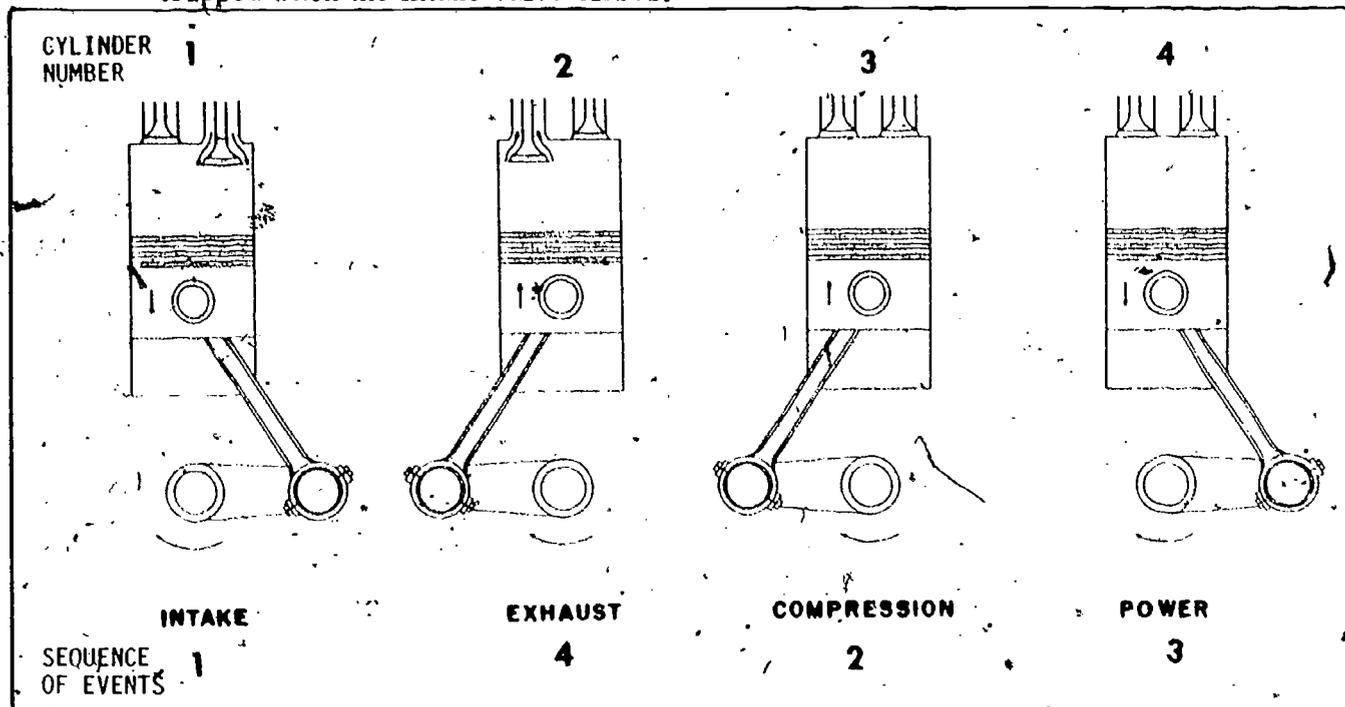

Fig 2-8. Four-stroke-cycle of a 4-cylinder engine.
- (1) Four-stroke cycle (fig 2-8). The 4-stroke cycle refers to the number of times a piston must move from one end of a cylinder to the other to complete a cycle. A stroke is the movement of a piston from one end of a cylinder to the other, as from top to bottom or from bottom to top. A cycle is the chain of events necessary to intake air or air-fuel mixture, to burn and produce the power, and to prepare a cylinder for another cycle. In the 4-stroke-cycle engine, a cycle is completed in two down and two up
- (b) **Compression.** If you study figure 2-8 closely, you will note that in multicylinder engines, while one cylinder is on the intake stroke, the other cylinders are performing a different stroke. With both valves closed and the piston moving up, the air or air-fuel mixture is compressed. When the piston was at the bottom of the intake stroke the cylinder had a maximum volume. It is now being compressed to the smallest volume; the ratio of the maximum volume to the least volume is called compression ratio. The compression ratio of an engine determines the type of fuel that can be used most economically; it also determines how the fuel will be ignited. (You learned earlier that a hot mixture is easier to ignite than a cold mixture.) The compression stroke is completed when the piston has reached the top and the mixture is ignited. Ignition can be by an electric spark or by heat of compression. The crankshaft has now turned one full revolution, but the camshaft has only turned 180° . When the piston is at the top on the compression stroke, it is referred to as "top dead center" (TDC).